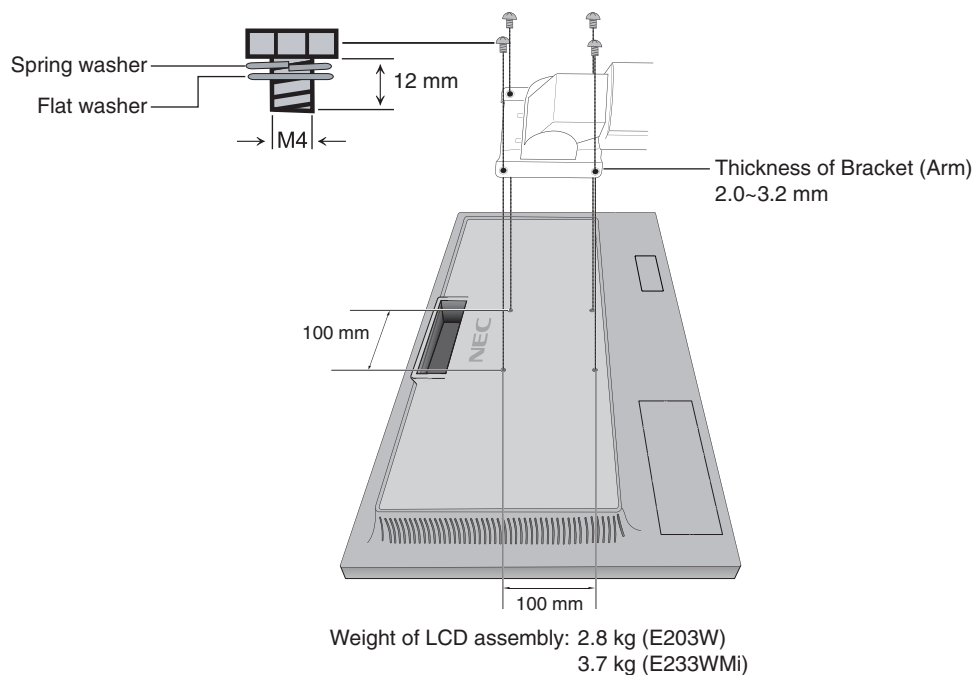

Figure F.1
2. Use the 4 screws removed from the stand or the specified screws (**Figure F.1**).
⚠ CAUTION: Use ONLY the screws (4 pcs) that were removed from the stand or the specified screws (**Figure F.1**) to avoid damage to the monitor or stand.